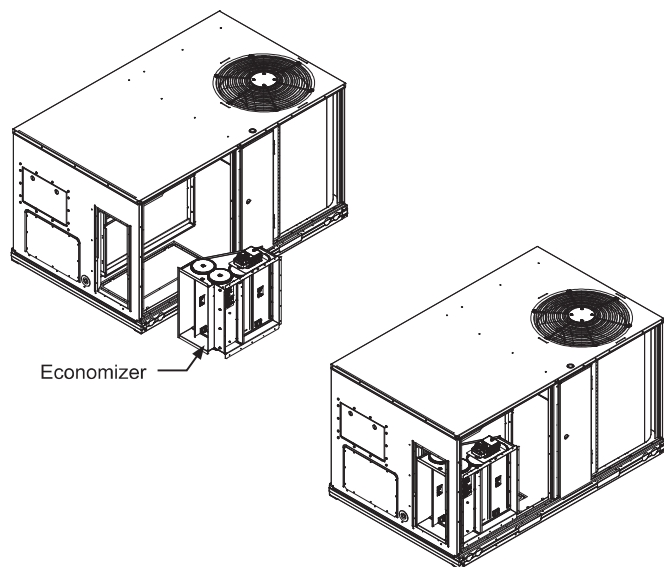

Fig. 6 - Typical Installation of Economizer Assembly Chassis 3/4 Shown
3. Lift the Economizer Assembly and slide into the RTU RA Cavity opening - See Fig. 6.